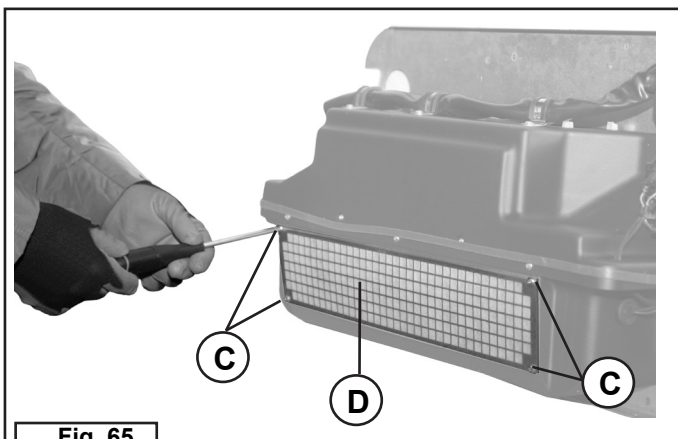

Fig. 65
6	Loosen and remove the 4 self-threading screws (C) holding the filter (fig. 65).